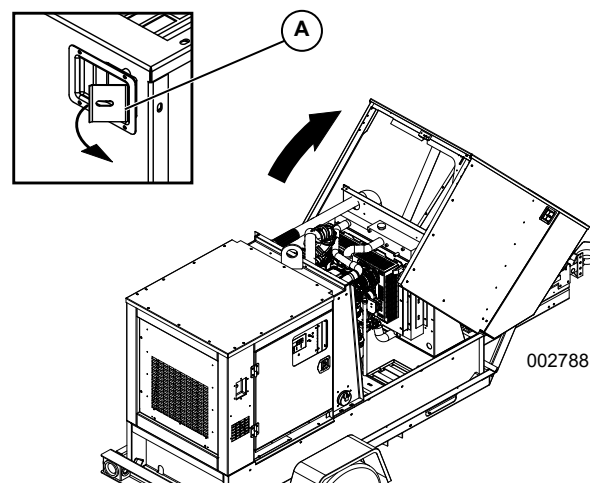

Figure 2-8. Front Hood Operation
1. See **Figure 2-8**. Grip the handle located on the upper right side of the front panel.
2. Pull hood latch (A) and tilt hood open until it contacts the bulkhead panel.
1. See Figure 2-8. Verify skid is free of debris and all personnel are clear of unit.
2. Slowly push hood forward and allow it to close firmly to ensure hood latch (A) is engaged.